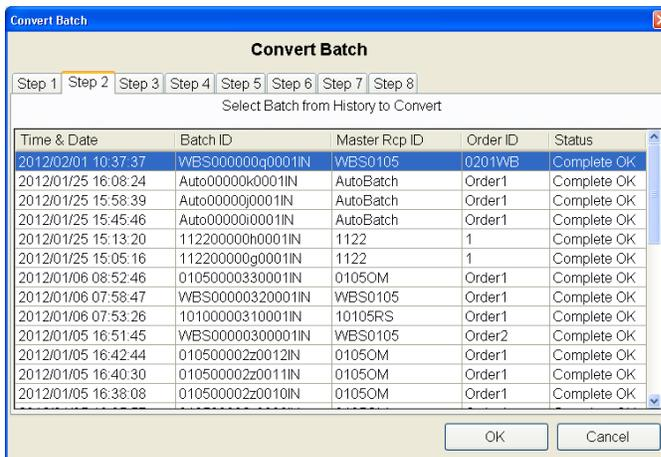

Figure 12-22: Convert Batch Source Recipe Selection Screen
- Next, from the list of history records (Figure 12-22) select the recipe to be converted. In the list below several batch history files are available. Select the first recipe in the list, which is the White Base stock recipe, and click **OK**.